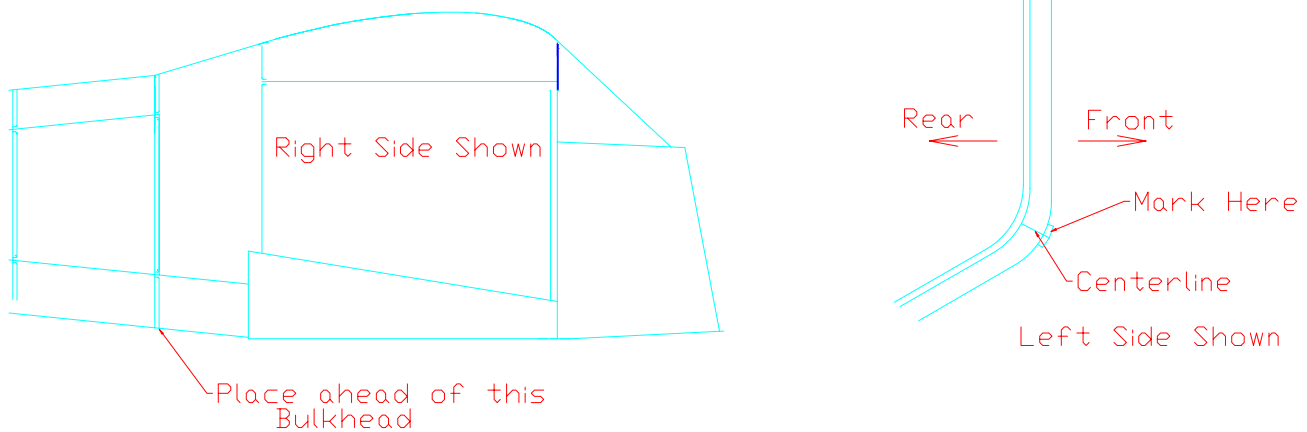

Figure 9.16.1
- 1) Locate bulkhead “A”, (the second bulkhead back from the rear of the door), and mark a line from the center of the radius onto the outside skin. Mark a box 1” x 5/16” as shown in figure 9.16.1.